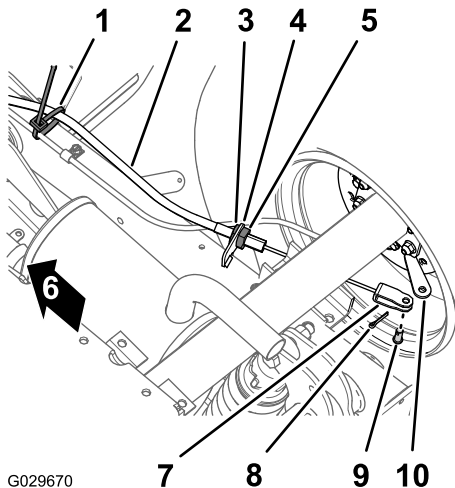

Figure 42
1. At the bottom of the machine, remove the cable tie that secures the parking-brake cable to the service brake line (Figure 42).
2. Mark a rotation stripe on the forward jam nut for the parking-brake cable (Figure 42).
3. Loosen the rear-jam nut and remove the cable from the brake-cable bracket (Figure 42).
4. Remove the cotter pin and the clevis pin that secure the clevis for the parking-brake cable to the brake-actuating lever and separate the cable from the lever (Figure 42).
1. Route the threaded adjuster of the parking-brake cable to the brake-cable bracket and the clevis to the brake-actuating lever (Figure 42).
3. Align the threaded adjuster of the parking-brake cable to the brake-cable bracket and tighten the rear-jam nut (Figure 42).